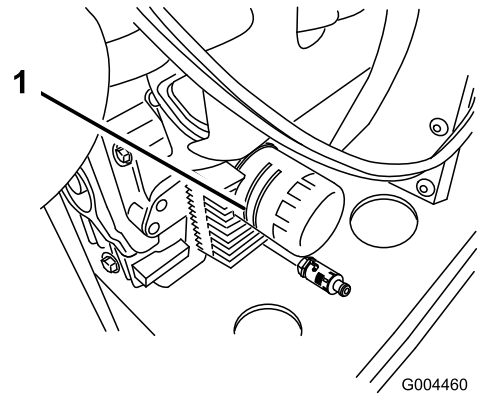

Figure 39
2. Remove the old filter and wipe the filter adapter gasket surface (Figure 39).